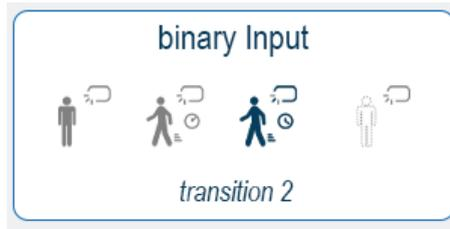

Figure 4.3 State 3 transition 2.
- **State 3:** Transition 2 (See Figure 4.3).